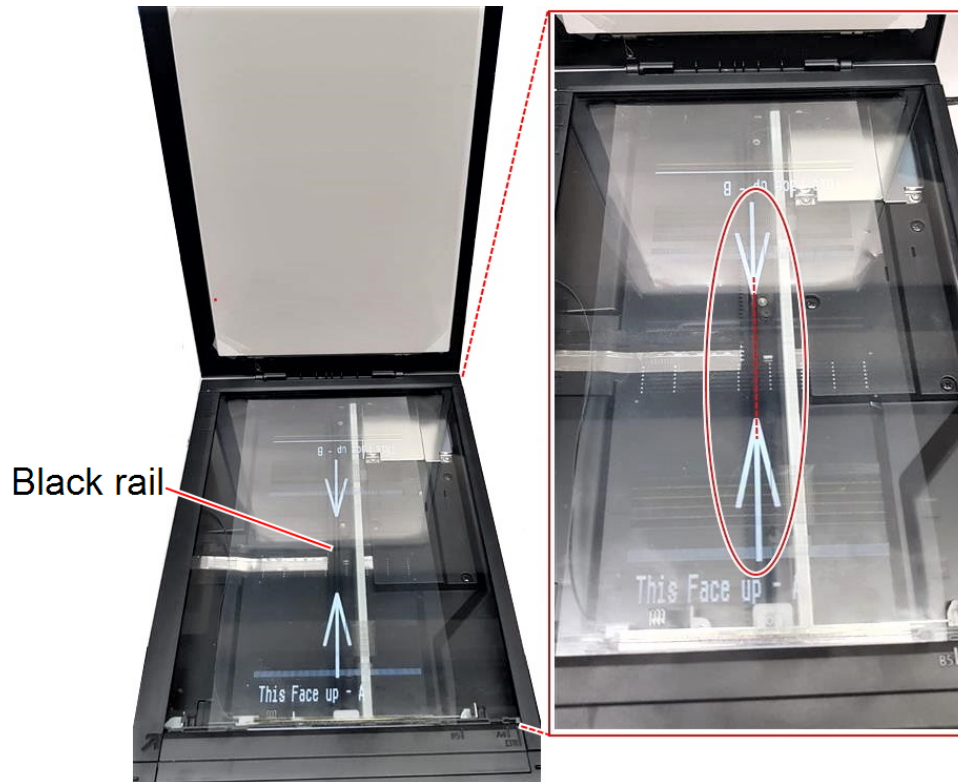

Figure 4-178 Placing the transparency on the scanner - side A
16. Place the test-pattern transparency face up on the scanner platen, with the arrows aligned with the black rail (under the glass), and the edge marked **'This Face Up - B'** along the bottom edge of the scanner glass (closest to you). See Figure 4-178 on page 4-117.